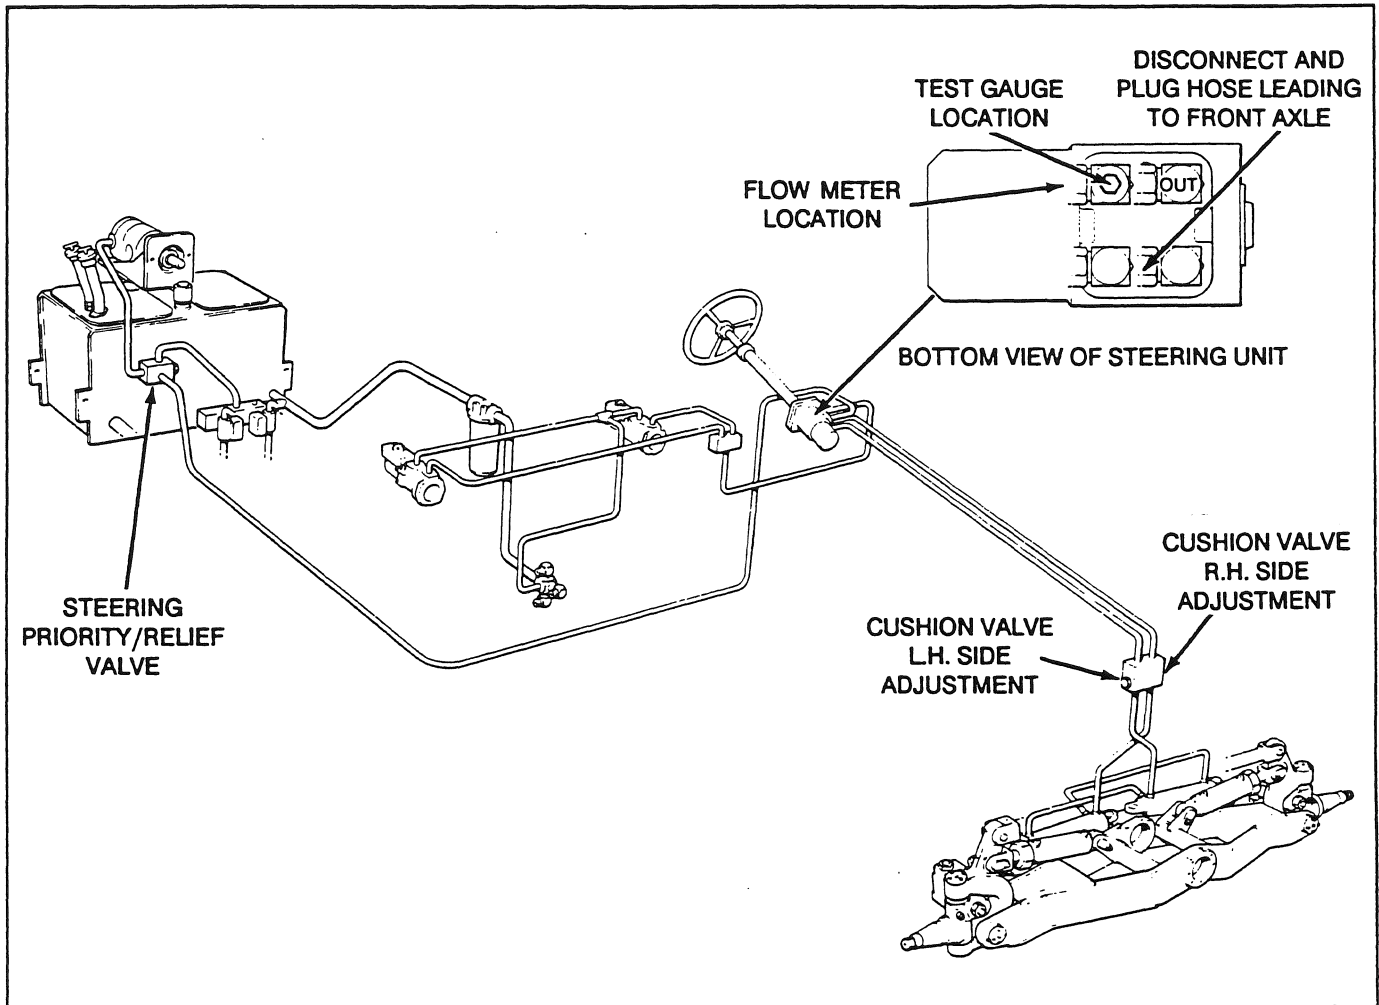

Fig. 1
Steering System Pressure Checks (Fig. 1)
3. To test the steering system relief valve, place the grader in the SERVICE POSITION (refer to your 700 Series Shop Manual P/N L 2005). Clean around the hydraulic tank filler neck cap. Remove and replace the cap to relieve the tank pressure. Disconnect one hose at the steering unit leading to the front axle (refer to Fig. 1). Use a steel cap and steel plug to plug the open port and hose. Do not use plastic caps. Danger of hot oil.
Steering Cushion Valve Adjustment (Figs. 1 and 3)